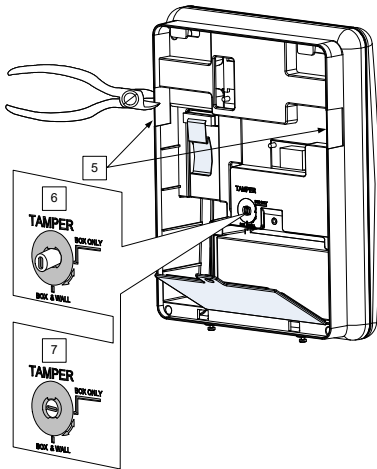

Figure 3: Wall Installation
5. Hold the mounting bracket against the wall as a template and mark the locations for the 5 mounting holes and an additional hole for securing the tamper protection bracket item (see Figure 3, detail 2), are available,).
7. According to the location of the wall cables, route and insert the wires and cables via the cable's openings (see Figure 3, detail 3) including AC cable and telephone cable. See the following sections on wiring/connection tasks.
8. Anchor cables with dedicated hooks (see Figure 3, detail 4).
- a. Box and Wall configuration (see Figure 3, detail 6) - Triggers the tamper when the box (main panel) or the wall mounting are tampered with.
- b. Box only configuration (see Figure 3, detail 7) – Triggers the tamper when the box (main panel) is tampered with.
2. According to the location of the network cable, route and insert the cable via the opening on the main panel (see Figure 3, page 18).